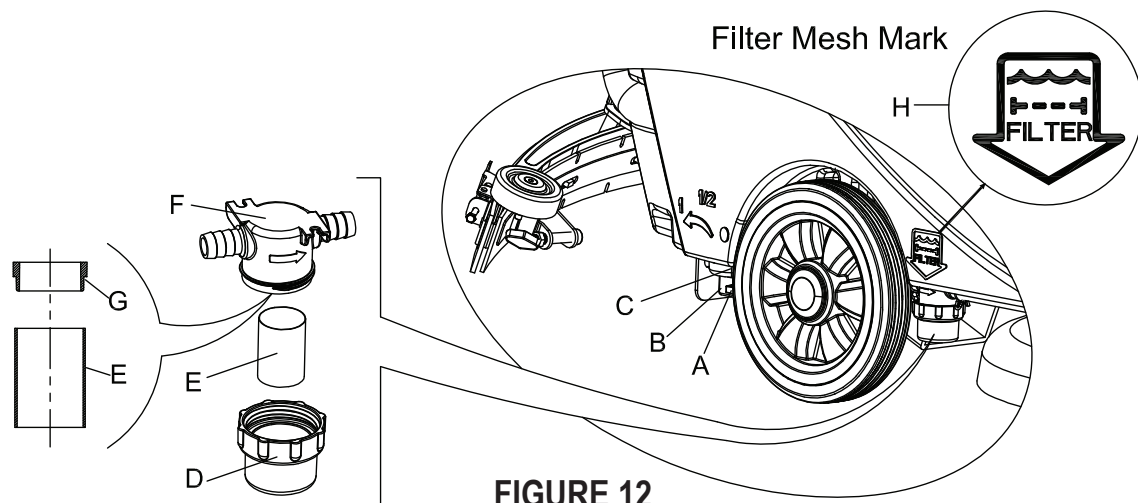

FIGURE 12
3. Press the power switch (38) to the "O" position to turn off the machine.
4. Turn off the draining ball valve (A, Figure 12) (located at the bottom of the machine, behind the wheels). Position B ball valve open, and position C ball valve closed.
5. Remove the transparent cap (D), and then take off the filter (E), and install them onto the filter box (F) after cleaning.